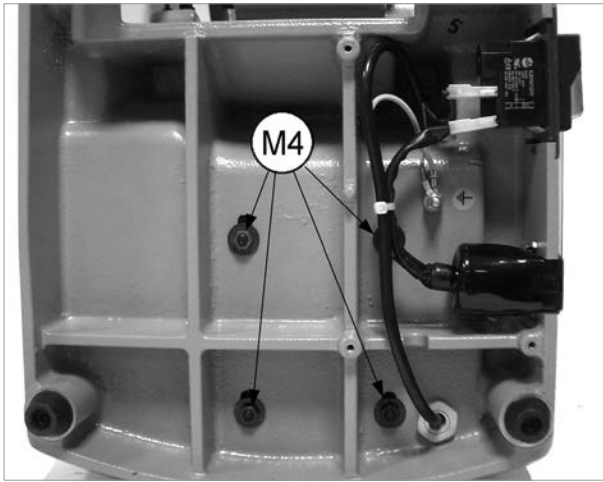

Fig.40
- 4) Loosen and remove the 4 motor fixing nuts (Fig.40).